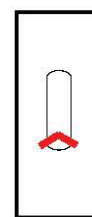

Figure-1
- 8 Listed Spazzer Bar capacities are based on Spazzer Bar fully seated in the bottom of the stud knockout as shown in Figure-1.